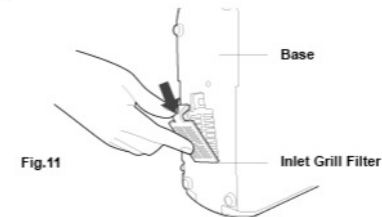

Fig. 11
- Remove the filter by pushing the Inlet Grille Filter notch. Set aside (Fig. 11).